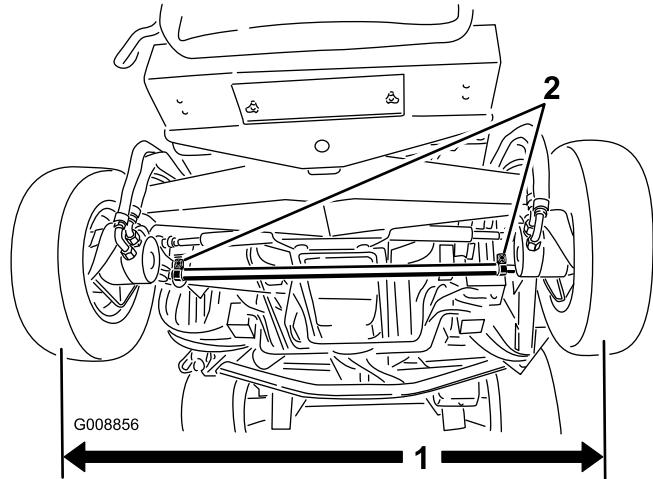

Figure 75
2. To adjust, loosen the clamps at both ends of the tie rods (Figure 75).
1. Measure the center-to-center distance (at axle height) at the front and rear of the steering tires (Figure 75). The front measurement must be no greater than 0.00"-0.12' less than the rear measurement.